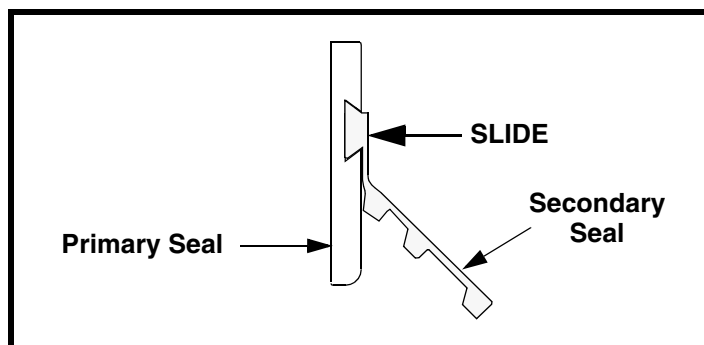

Figure 4. Inserting Dovetail into Dovetail Groove
- c. Starting at one end, slide secondary seal dovetail into primary seal groove (see Figure 4).